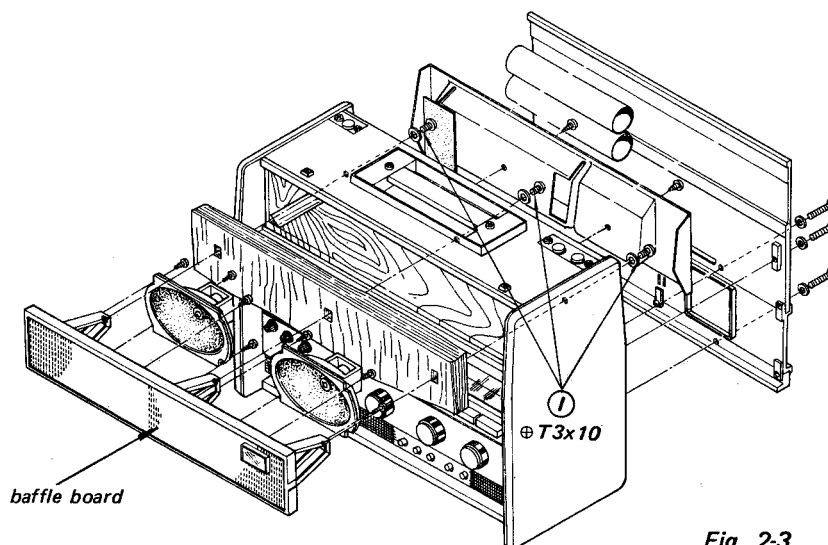

Fig. 2-3
2. Remove the three truss head screws marked (I) in Fig. 2-3.
3. Now, baffle board and two speakers are removable as shown in Fig. 2-3.